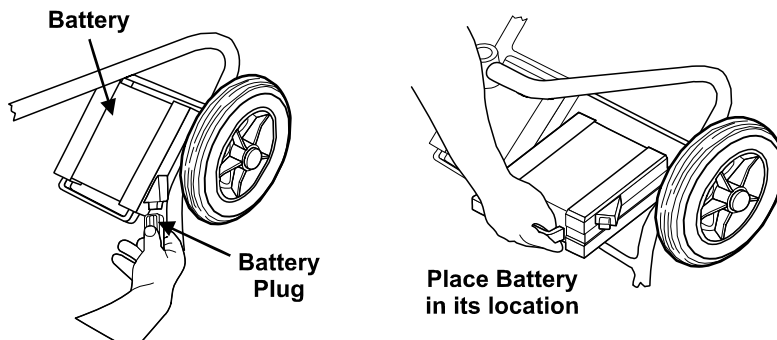

Figure 5.
2.3 Installation of Batteries (See Fig. 5)